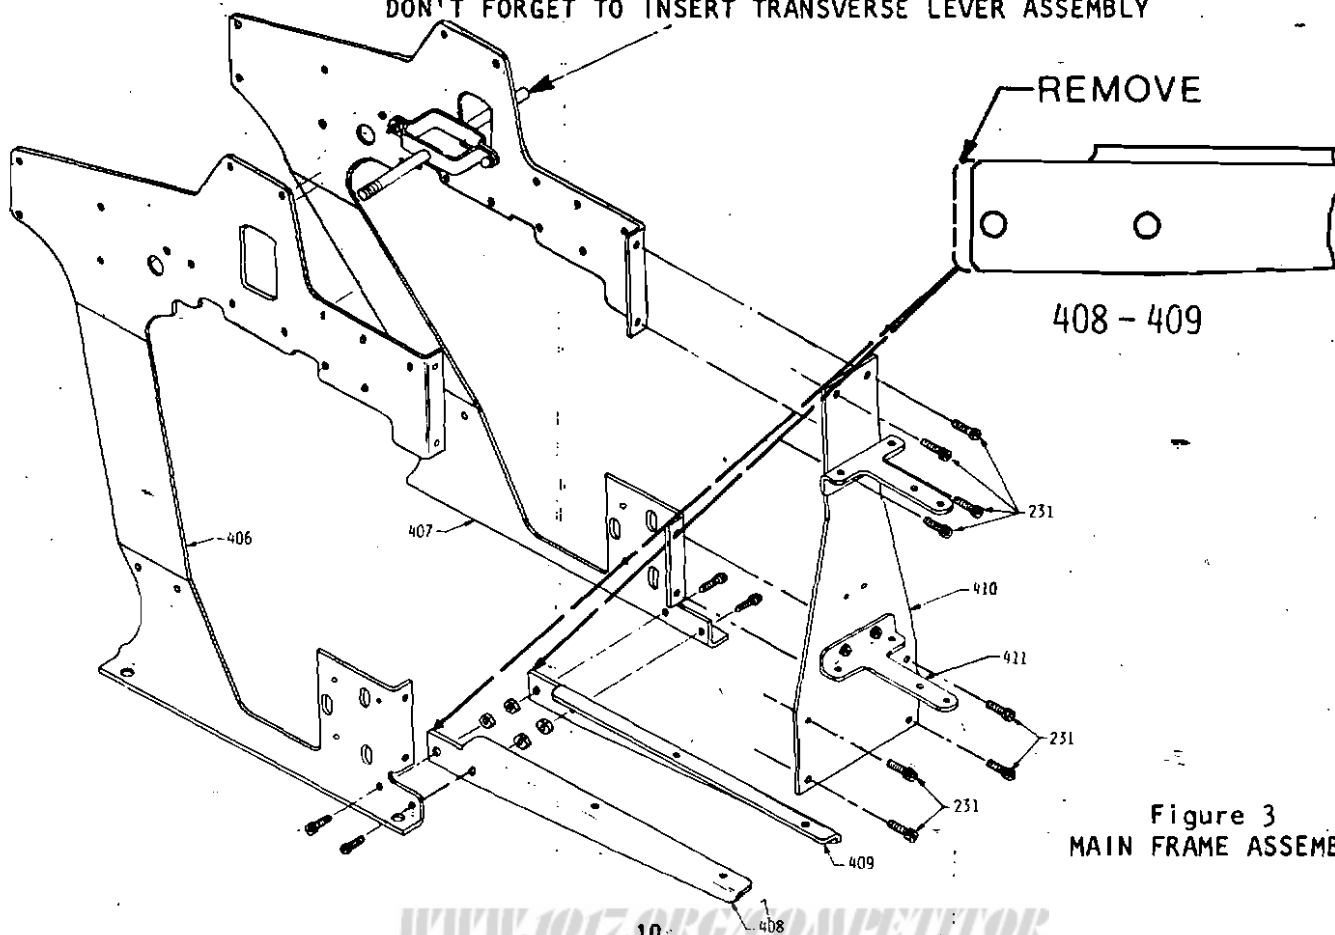

Figure 3
STEP 3 MAIN FRAME ASSEMBLY- see Figure 3
- A. Remove about 3/32" of material from the ends of each Front Stays #408 and #409- see Figure 3. This will ensure clearance of the engine mounting blocks if they need to be mounted lower than the top edge of the front stays.
- B. Fasten Front Right Stay #408 to Right Side Frame #406 using two skt. hd. screws #231 and two locking nuts #243. Check that everything is square. Tighten securely. See figure 3.
- C. Repeat (A) using Front Stay #409 and Left Side Frame #407.
- D. Fasten Front Frame Plate #410 and Top Servo Mount Stay #411 to left and right frame assemblies using eight skt. hd. screws #231 and eight locking nuts #243. Assemble, but do not fully tighten nuts at this stage. See Figure 3.
- E. Place Transverse Lever Assembly from STEP 1 between side frames, arms extending through rectangular holes in upper part of side frames. Threaded pitch shaft should be on the right (starboard) side of the helicopter. See Figure 3.
- G. Fasten Lower Servo Mount Stay #411 to Front Plate #410 as shown in Figure 3.